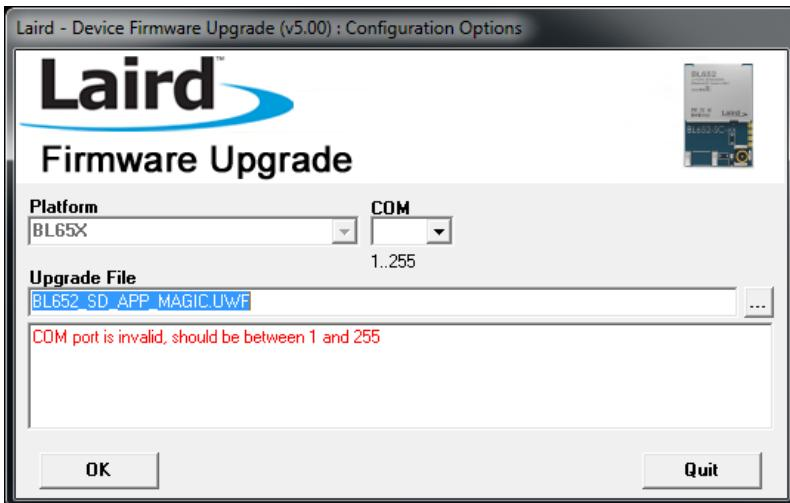

Figure 4: Firmware upgrade window
7. In the folder where the mesh firmware is unzipped, locate the file and launch the following file: **_DownloadFirmwareUart.bat** to open the window in Figure 4.